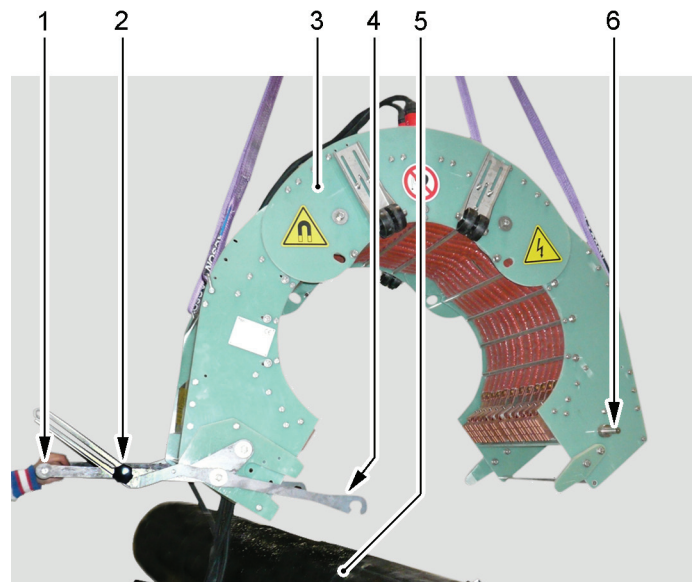

Figure 6.21 - Knob for releasing/locking the handle and release of the hook levers from the clamp coil pins
- 1) Loosen the knob (see Figure 6.21/2) releasing/locking the handle (1) for opening/closing the clamp coil (3).